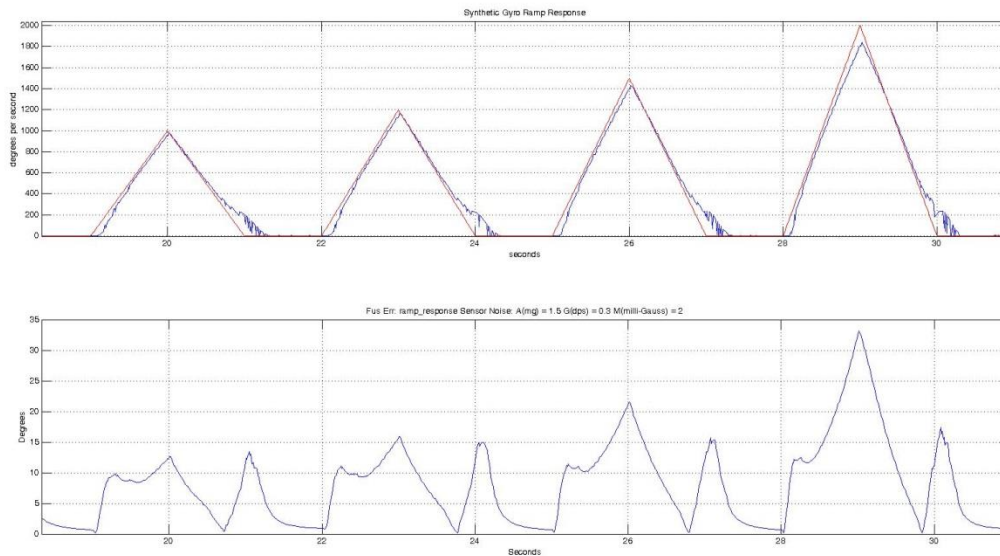

Figure 5 : Synthetic Gyro Ramp Response and Sensor Fusion output (full range 1000-2000dps)
2. In Figure 5, note that the angular velocity becomes progressively more underestimated when it is very high. This is due to breakdown of small angle approximation as the rotation per sample gets larger.